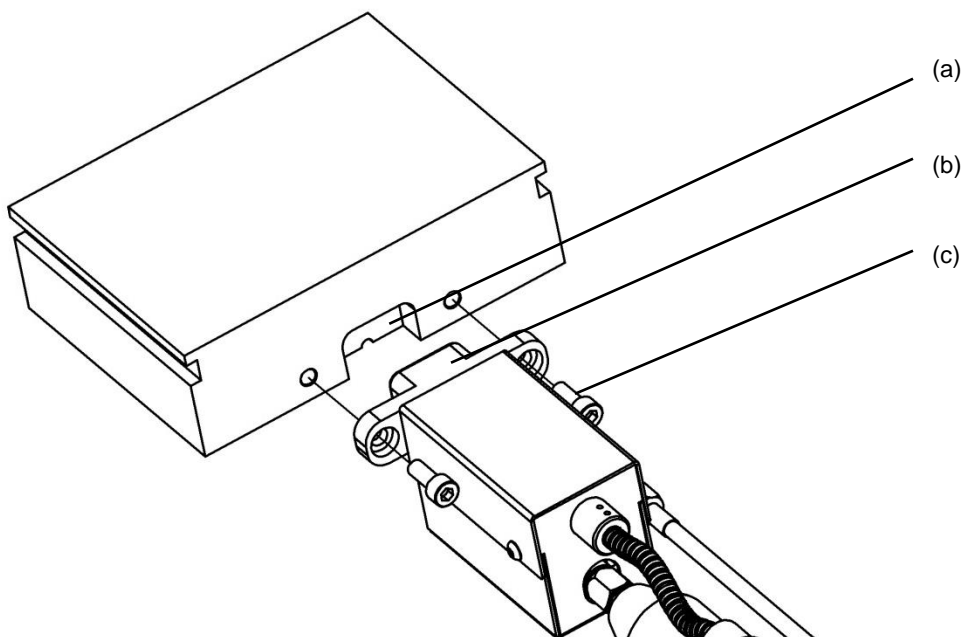

Fig. 4-36 Injection gun engagement detail
- Before mounting the nozzle assembly ensure that the mounting bracket, (b) in Fig. 4-36 below, is free of any material residue.
- Once fully engaged, insert two M8x20 socket head cap screw [(c) in fig. 4-36] in each of the two mounting holes and tighten them with a 6 mm Allen key to 11 ft-lb (15 Nm) torque.